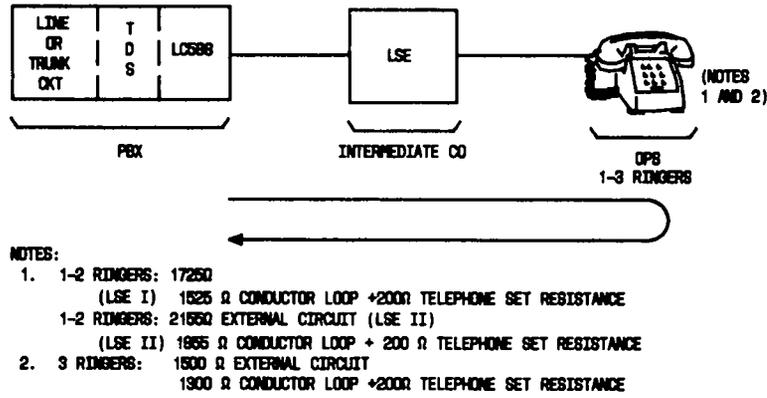

Fig. 35—Loop Signal Extender (LSE) at CO in OPS Line
6.56 The LC588 line circuit (Fig. 34) transmits the 30-Hz ringing to stations associated with the PBX, and it detects loop signaling. Range to a station is limited to no more than 950 ohms. Range is reduced to 500 ohms if four ringers are required and 300 ohms for five ringers (Fig. 35). When an LSE is added, the external circuit resistance is extended to 1610 ohms for up to two ringers and 1500 ohms for three ringers. The LSE is limited for use with three ringers. Signaling ranges are based on a dc voltage level of -45 volts at the PBX, because the nominal -48 Vdc supply var-